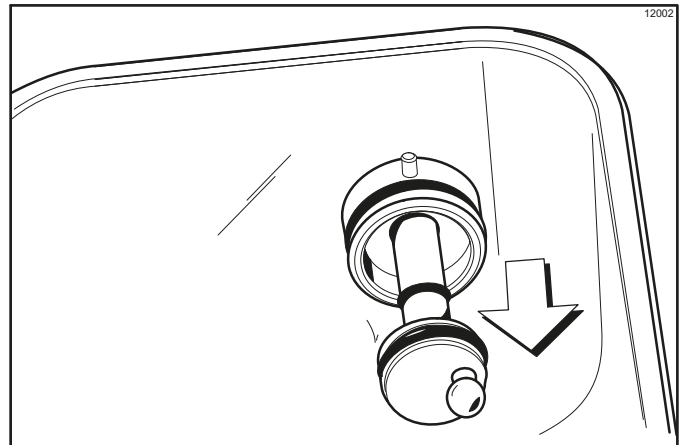

Figure 6-39
5. Remove the pump driveshafts from the drive hubs in the rear wall of the mix hoppers. (See Figure 6-39.)